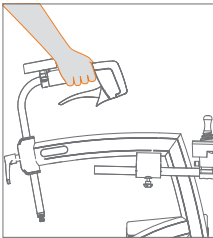

Figure 26: Driving.
- a. While walking, keep the fingers loosely around the foam handgrips (**Figure 26**). You can also keep them around the brake handles, with your thumb on the inside of the handle.